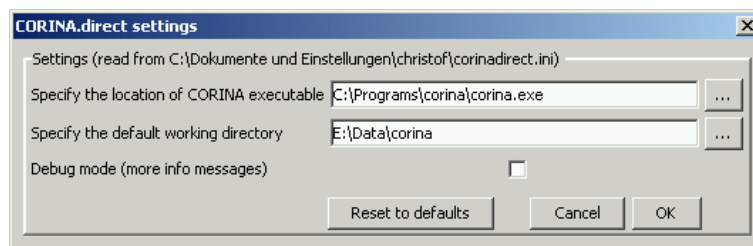

Figure 5 **Settings** dialog box of **CORINA.direct** on MS Windows platforms.
- 4) Double click the file *CORINA.direct.exe*. The **Settings** dialog box of **CORINA.direct** appears on your screen (see Figure 5).